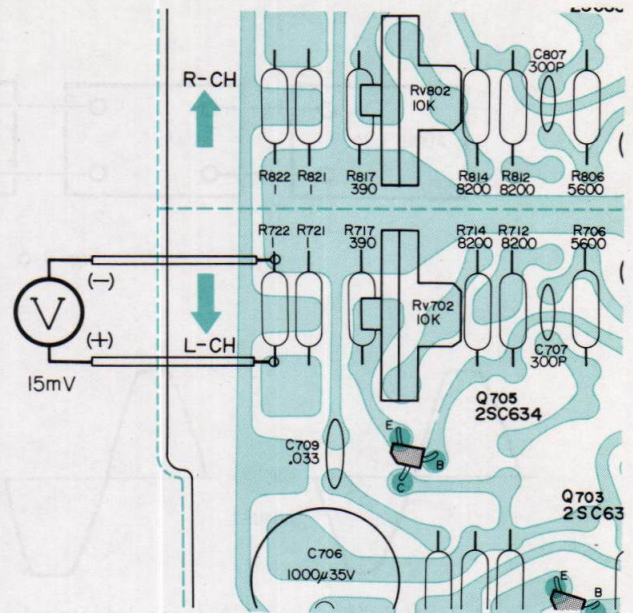

Fig. 4-5 Connection of dc volt meter across R722
cidental power-transistor damage, increase the ac line voltage gradually, using the variable transformer, while checking the voltage across emitter resistor R722 (1.0 ohm). Check to see that the reading does not exceed 15 mV. See Fig. 4-5.
1. Connect a dc voltmeter across emitter resistor R722 (1.0 ohm) as shown in Fig. 4-5.